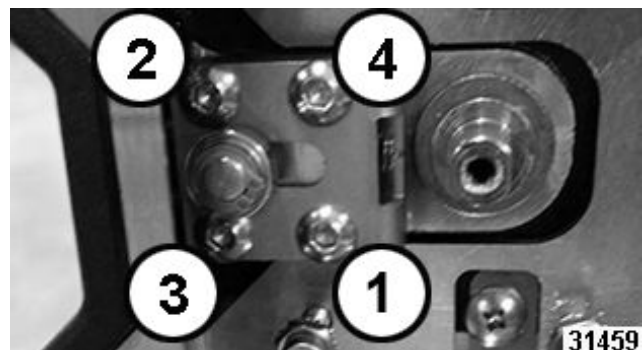

Fig. 16
2. Remove four allen screws (1-4 in Fig. 16) on plunger mechanism.
NOTE: When installing new plunger, tighten allen screws in crisscross pattern as numbered in Fig. 16 torque to 24 in. lbs.